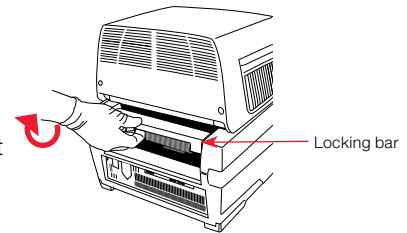
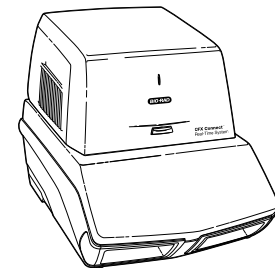

Fig. 2. Locking the CFX Connect Module into place.
Fig. 3. The CFX Connect Module positioned on the CFX Connect Chassis.
4. Reach around the thermal cycler and pull up the locking bar (Figure 2) until it is flush with the sides of the module bay. This action moves the reaction module forward, locking it into place (Figure 3).